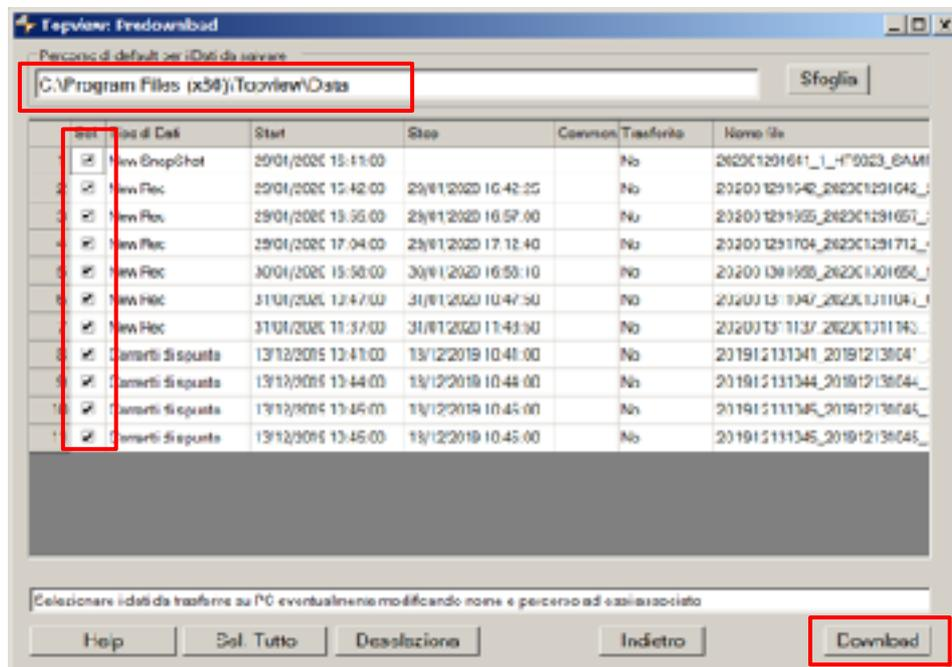

Fig. 17: Selection data for download
7. Click on the “Next” button to open the download window (see Fig. 17). Check the measurements you want to download, choose the path where you want to save them and click on the “Download” button to start the transfer